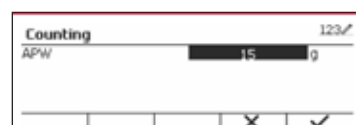

Figure 43
2. Press the softkey corresponding to the ✓ icon to edit the APW value using the alphanumeric keypad. (See Figure 43)